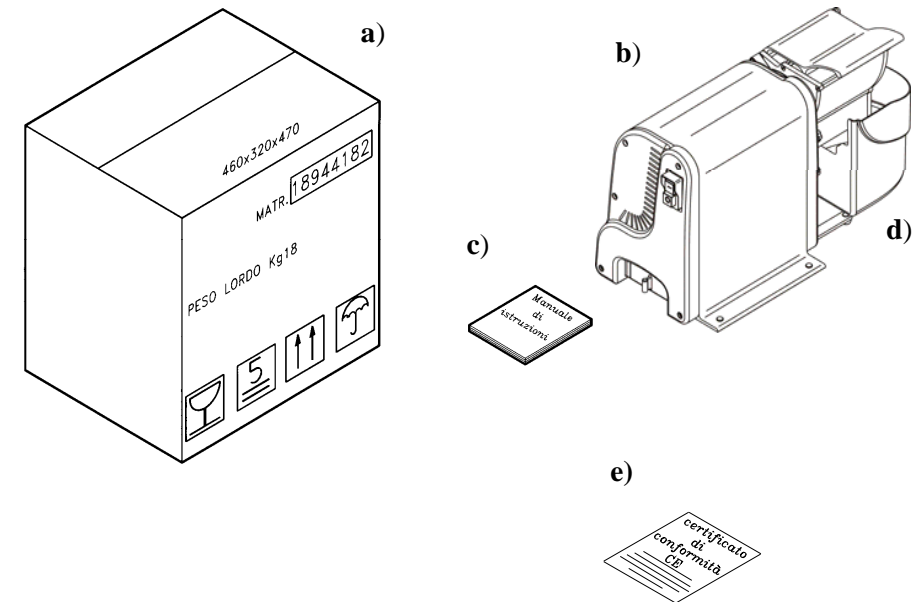

FIG. no. 4 - Package description
Upon receipt of the parcel, if there is no external damage, proceed with opening it, making sure that all of the material is inside (see FIG. No. 4). If, on the other hand, upon delivery of the parcel it shows signs of mistreatment, impact or being dropped, you must bring the damage to the courier's attention and, within 3 days of the date of delivery indicated on the documents, make a precise report of any damage to the machine. Do not overturn the package!! When transporting, make sure it is firmly held at the 4 fundamental points (keeping it parallel to the ground).
3.1 - SHIPPING THE MACHINE (see FIG. no. 4)